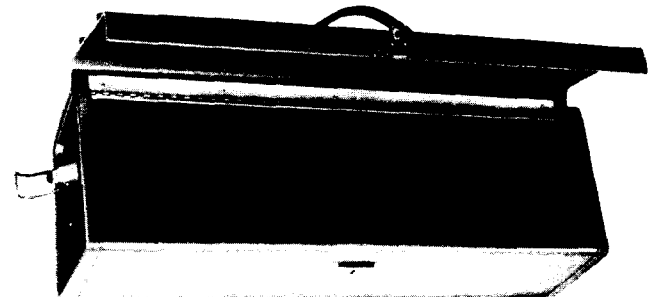

Fig. 13—D Connector Case For Storing the B Test Connector
**3.31** The D test connector case (Fig. 13) consists of a lightweight plastic box with a hinged cover, a carrying handle, a latch, and two snap catches. Supports are provided for holding the test connector in place.